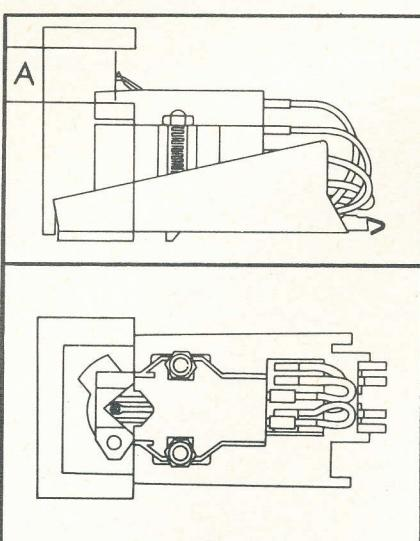

Fig. 14
3. The cartridge is correctly mounted when the notch in the mounting gauge encloses the stylus tip, and when the stylus tip, viewed from the side, is within the area "A" (Fig. 14).